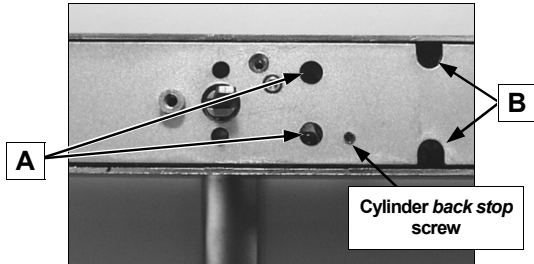

Fig. 1: Install Cylinder if not already installed at the factory
1. **Install Cylinder if not already installed at the factory.** Screws A & B (see Fig. 1) are correctly set at factory. If it is difficult to screw in the cylinder, loosen the two screws near the actuator (B) one turn. If you find the cylinder is still difficult to screw in, then loosen the other screws (B) one turn. **Do not loosen the screws all the way or it may be difficult to replace them properly!** **Note:** The trim is manufactured to use a 1-1/8" or 1/4" *Alarm Lock* mortise cylinder with a HW-1302 cam. If the cylinder that will be used is longer than 1 1/4", a collar must be utilized. Please see the collar information on the previous page.